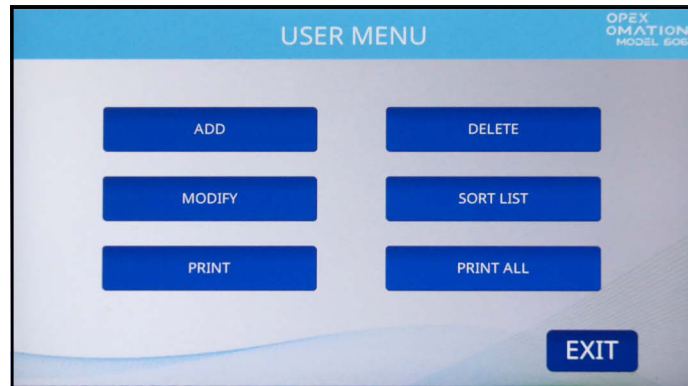
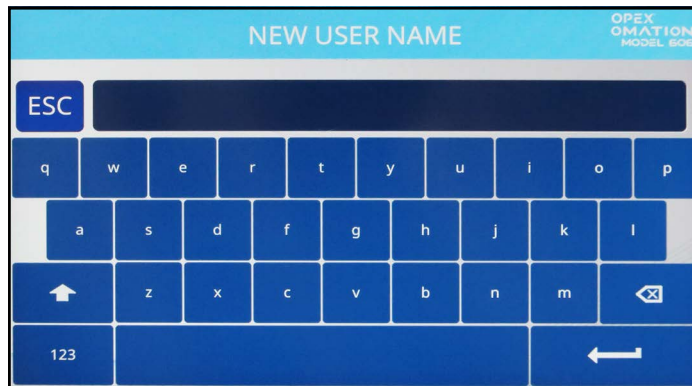
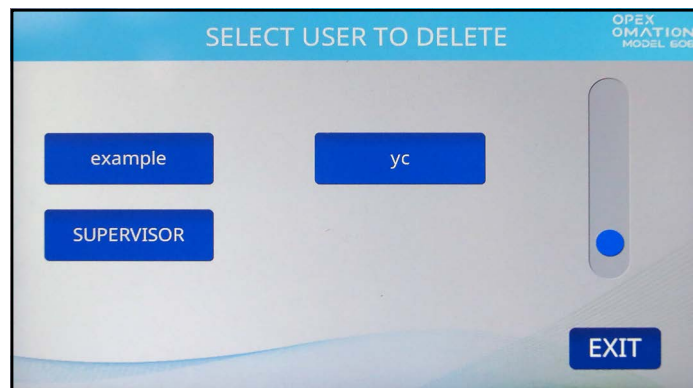
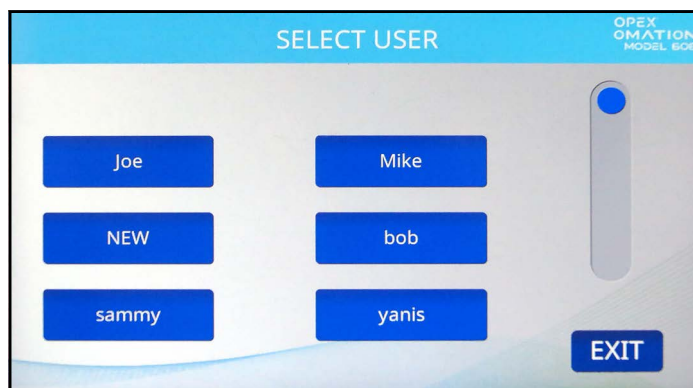

Figure 6-34: User Menu screen
Figure 6-35: New User screen
Figure 6-38: Select User to Delete screen
Figure 6-39: Select User screen
Selecting **USER MENU** on the Supervisor screen displays the following options (Figure 6-34):
1. On the **USER MENU** screen (Figure 6-34), press **ADD**. The **NEW USER NAME** screen will appear (Figure 6-35).
1. On the **USER MENU** screen (Figure 6-34), press **DELETE**. The **SELECT OPER TO DELETE** screen appears (Figure 6-38).
1. On the **USER MENU** screen (see Figure 6-34), press **MODIFY**. The **SELECT USER** screen will appear (Figure 6-39).
1. On the **USER MENU** screen (Figure 6-34), press **SORT LIST**.